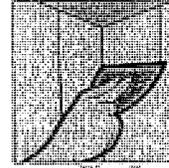
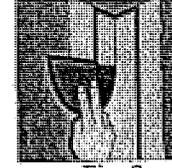

Fig. 7
Fig. 8
**Caution:** It is difficult to fold fiberglass tape to achieve a straight interior corner. The use of paper tape in corners is recommended. **Paper Tape** (fig. 7) Use a 5" joint finishing knife to apply thin layer of joint compound on both sides of corner. Extend compound slightly beyond area to be covered by tape. Fold tape along center crease and lightly press into position with your fingers. Tightly embed tape as with other joints (fig. 8).